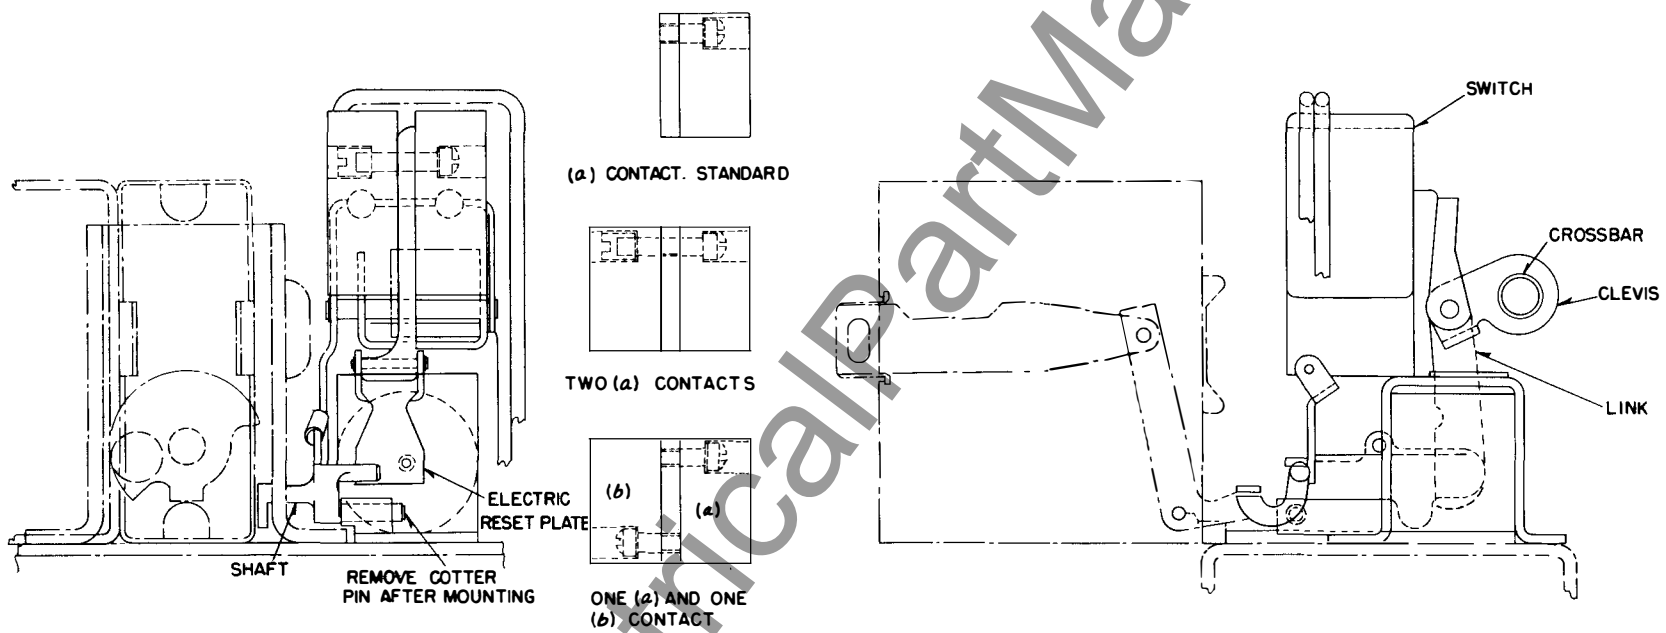
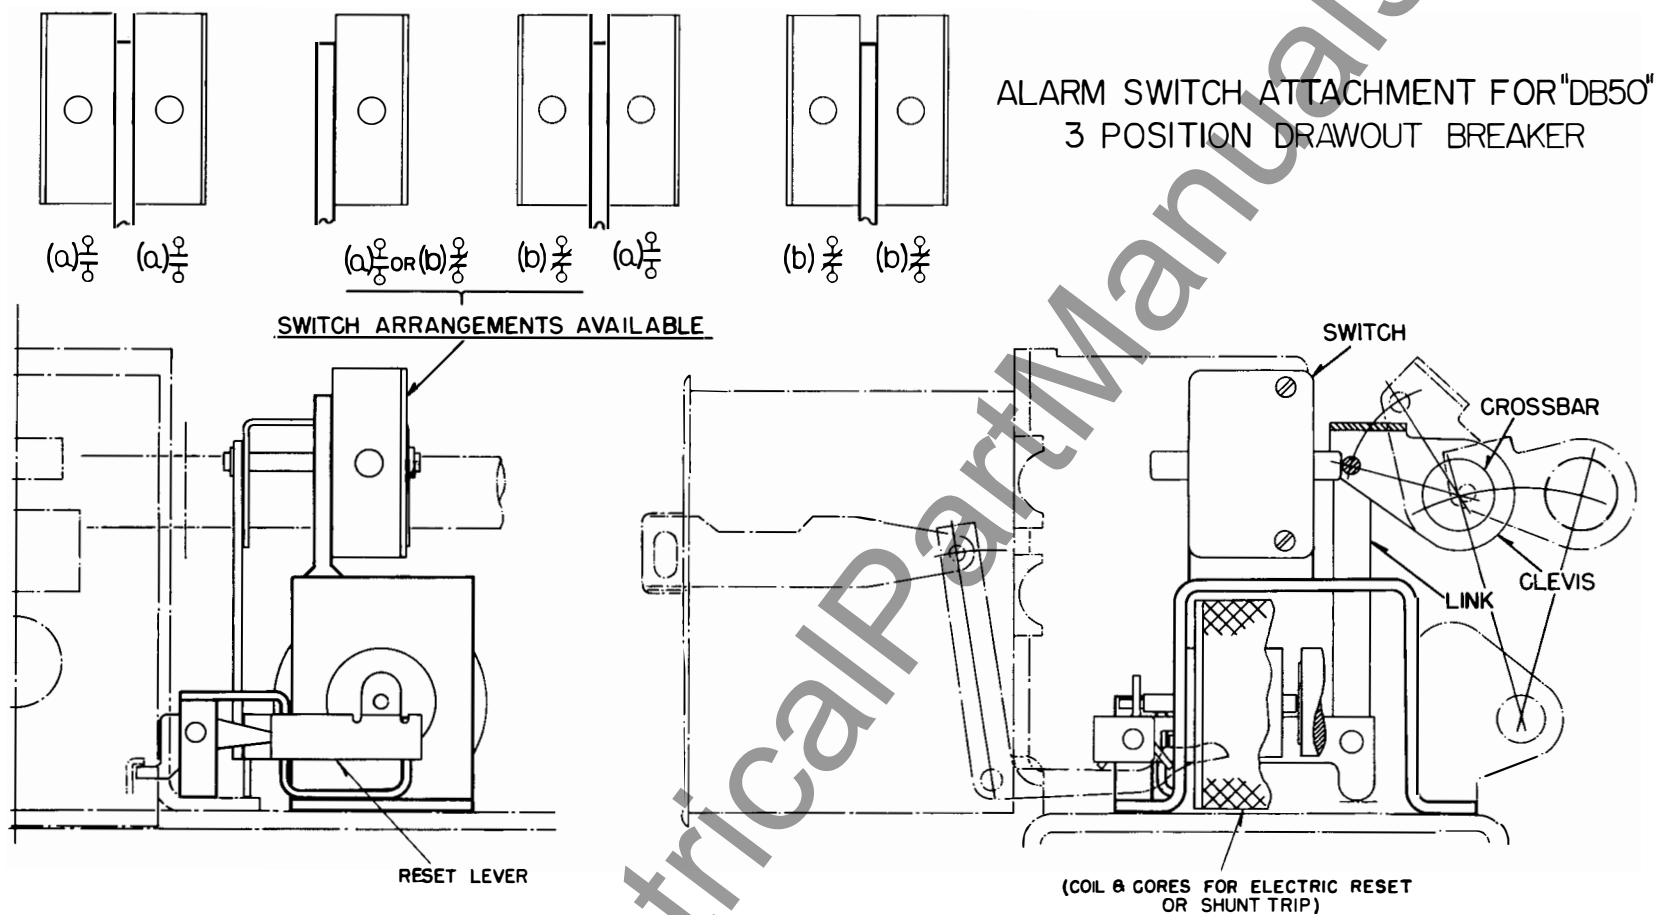

FIG. 7 - Type DB-15 and DB-25 Alarm Switch Attachment.
FIG. 8 - Type DB-50 Alarm Switch Attachment.
3. Alarm Switch - Fig. 7 Type DB-15 or DB-25 or Fig. 8 Type DB-50